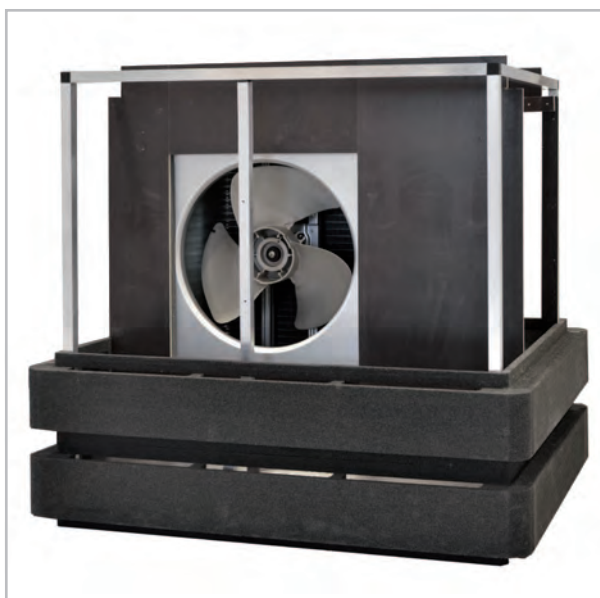

Fig. 35
- 25.** The support for the buffer (Fig. 34) is installed on the fastening point on the top and bottom aluminium frame, as shown in Fig. 35.